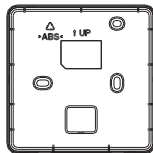

Fig 2
3. As shown in Fig.2, fix the wire controller to the wall with three screws through the three oval holes on the back cover of the wire controller. (Prepare three screws which are readily available in the market)